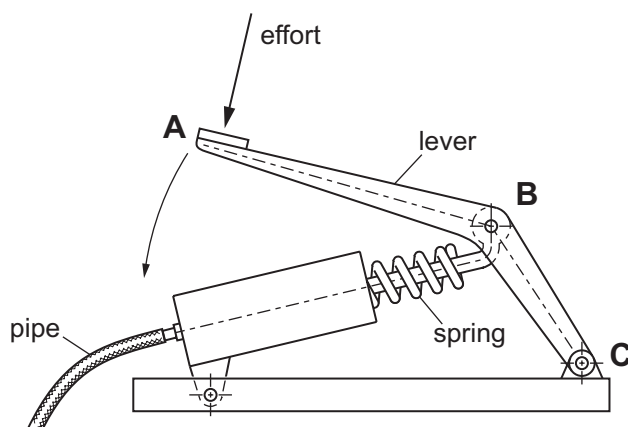

Fig. 8
- 10 A designer has developed a pump for inflating tyres. A sketch of the pump is shown in Fig. 8.